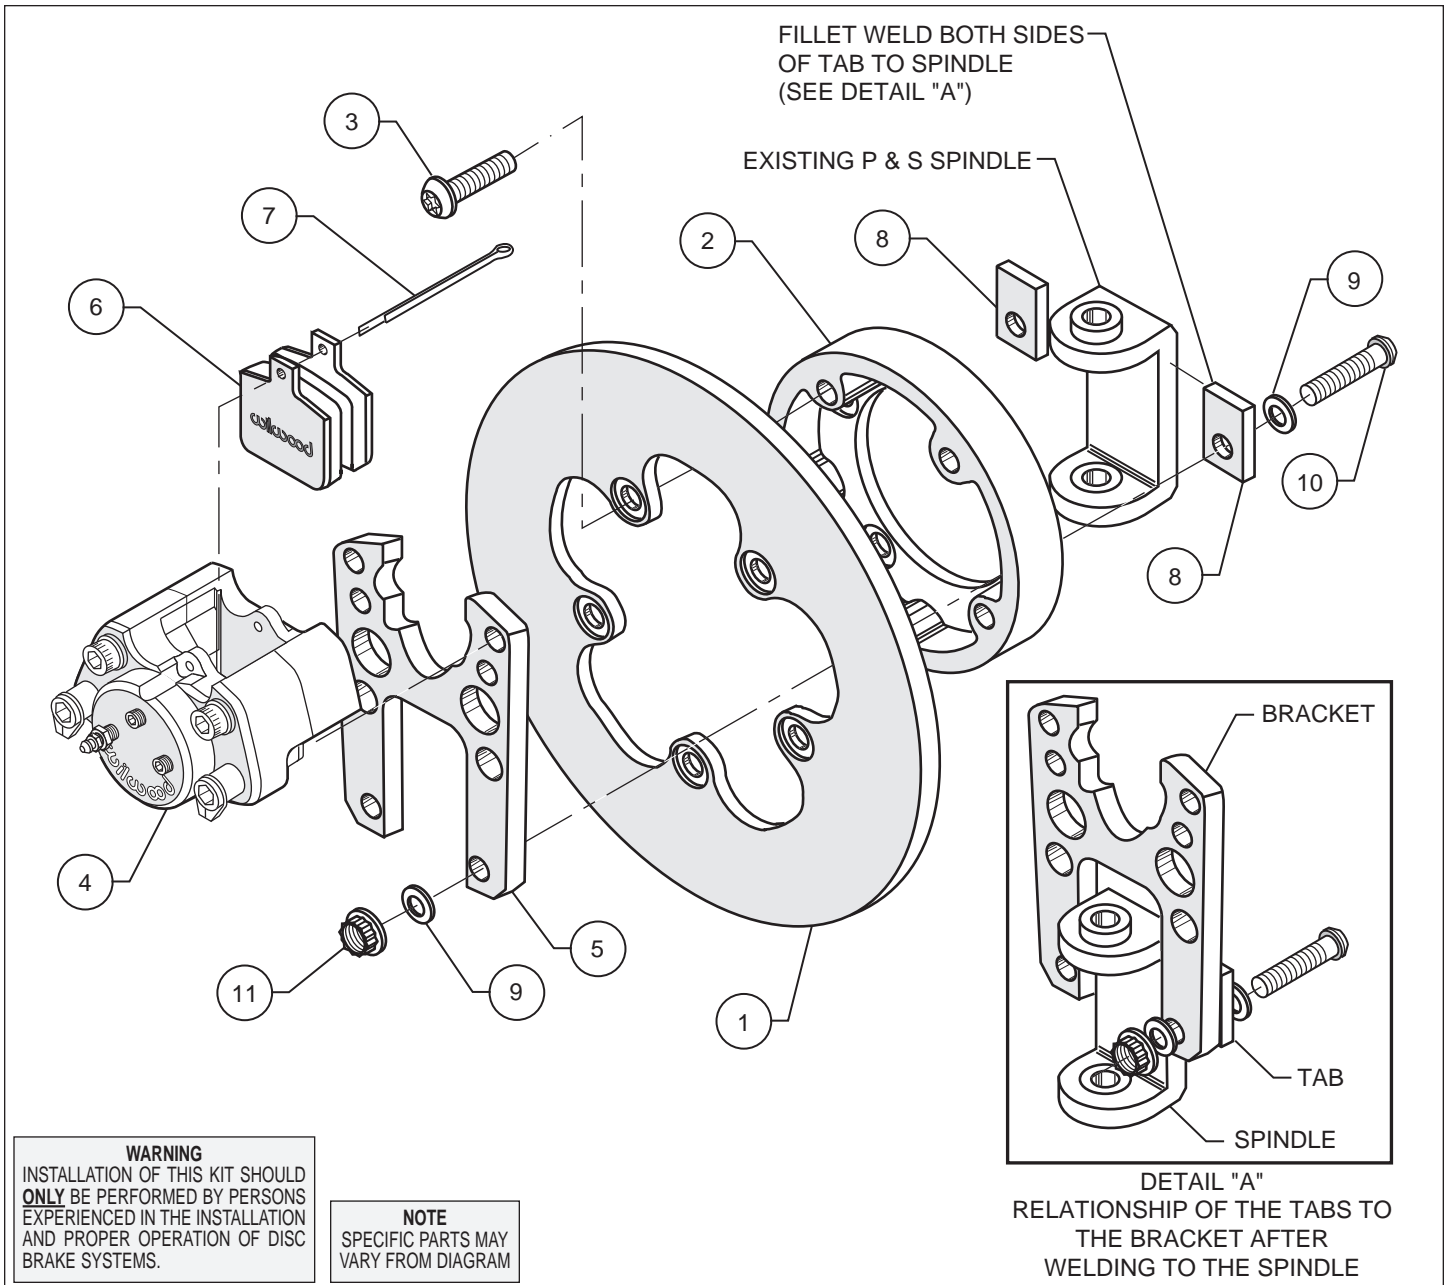

Figure 1. Typical Installation Configuration
- Attach rotor (1) to hat (2) using bolts (3), as shown in Figure 1. Using an alternating sequence, apply red *Loctite*® 271 to the threads and torque to 45 ft-lb.
- Apply red *Loctite*® 271 to the mounting bolts threads contained within the caliper (4). Mount caliper (4) to bracket (5). Torque these bolts to 42 ft-lb.
- Install the brake pads (6) into the caliper (4) and secure using cotter pin (7). The bracket (5) acts as the pad retainer for the inboard side pad.
- With the hole in the tab (8) in the downward position (see Figure 1), bolt the steel tabs (8) to the bracket (5) utilizing the washers (9) and bolts (10) slid through the hole on the hat side. Position another washer (9) over the bolts (10) and secure to the bracket (5) using nuts (11). Tighten only enough to keep the tabs from moving.